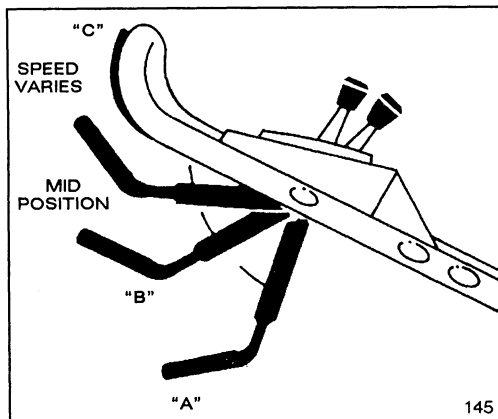

Figure 8
5. **BLADE AND TRACTION OPERATION** (Fig. 8)—Move control bar down to "A" and raise to "B" to engage blade. Squeeze control bar against handle